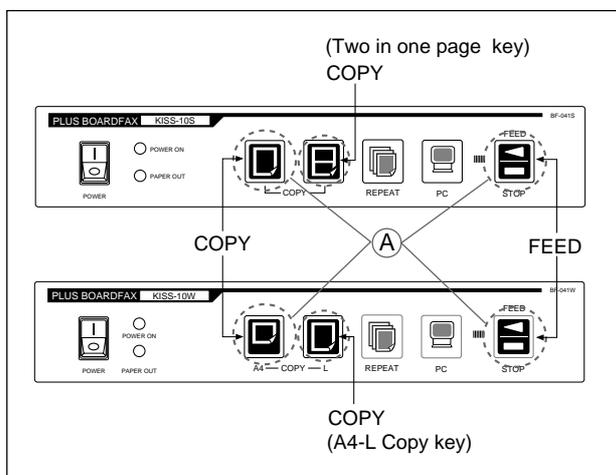

Fig. 1
- 2) Start a thermal head test. (See Figure 1.)
- Set the "POWER" button to OFF while simultaneously pressing the "COPY" and "FEED" buttons show in portion A of Figure 1.